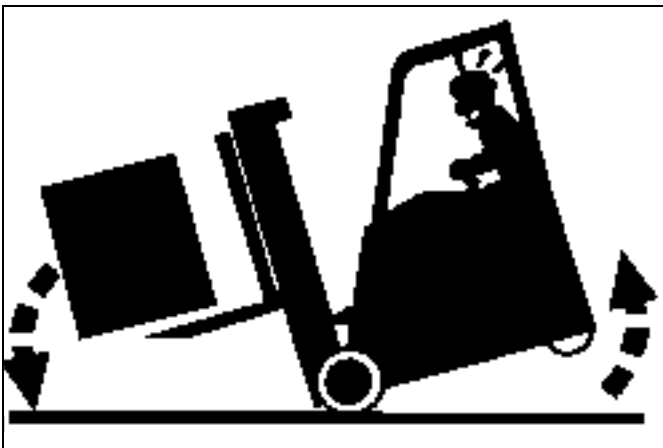

Figure 4-10: Tipping a Load
- **Make sure you insert forks fully into the pallet. Do not “tip load.” See Figure 4-10**